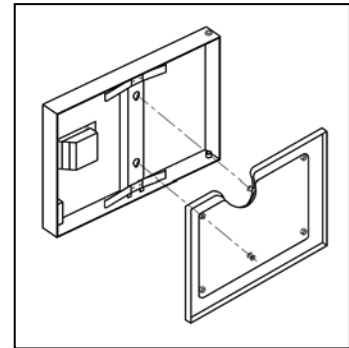

Figure 4-1 Door Gasket Assembly
- a. Remove the door gasket assembly. See Figure 4-1.